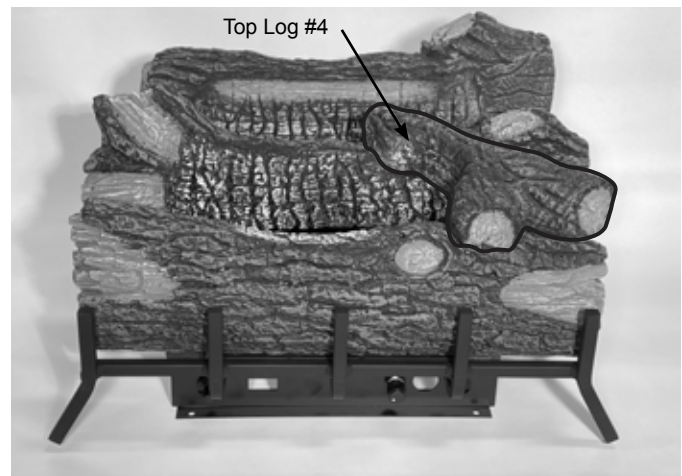

Figure 6.9 - Place Top Log
4. Rest Top Log (#4) in front and middle log cutouts. Figure 6.9